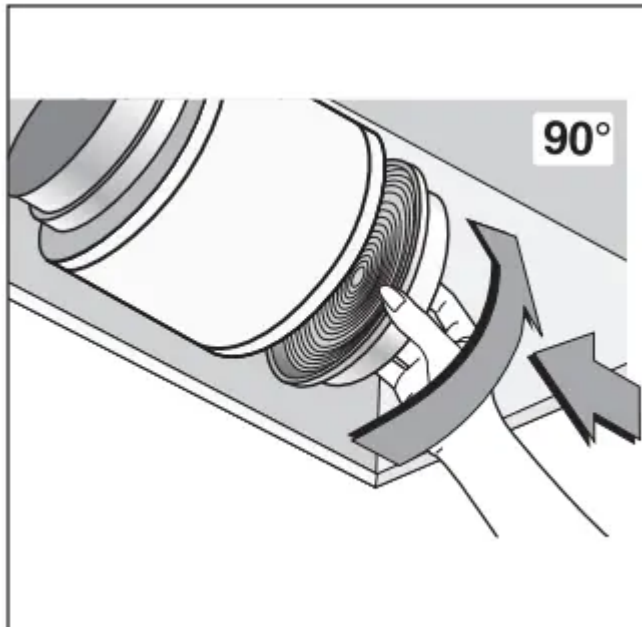

Fig.6
- **Filtering version:** Install the hood and the two flues as described in the paragraph for installation of the hood in ducting version. To assemble the filtering flue refer to the instructions contained in the kit. If the kit is not provided, order it from your dealer as accessory. The filters must be applied to the suction unit positioned inside the hood. They must be centred by turning them 90 degrees until the stop catch is tripped (Fig.6).